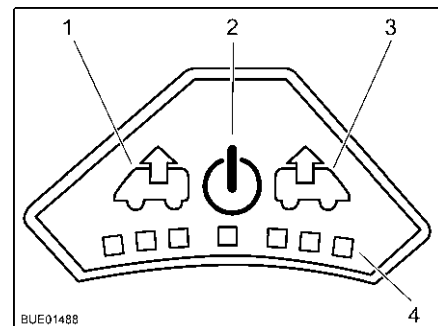

Fig. 101 Control panel for fan
- Press the On/Off button (Fig. 101,2). The fan runs in comfort mode (venting at slowest fan speed).
- To increase the fan speed: Press the Vent button (Fig. 101,1). The fan speed in the venting direction increases by one level. LEDs (Fig. 101,4) show the operating levels.
- To lower the fan speed: Press the Aerate button (Fig. 101,3). The fan speed decreases by one level.
- To increase the fan speed: Press the Aerate button (Fig. 101,3). The fan speed in the aerating direction increases by one step. LEDs (Fig. 101,4) show the operating levels.
- To lower the fan speed: Press the Vent button (Fig. 101,1). The fan speed decreases by one level.
- Press the On/Off button (Fig. 101,2). The fan stops, the LEDs go out.